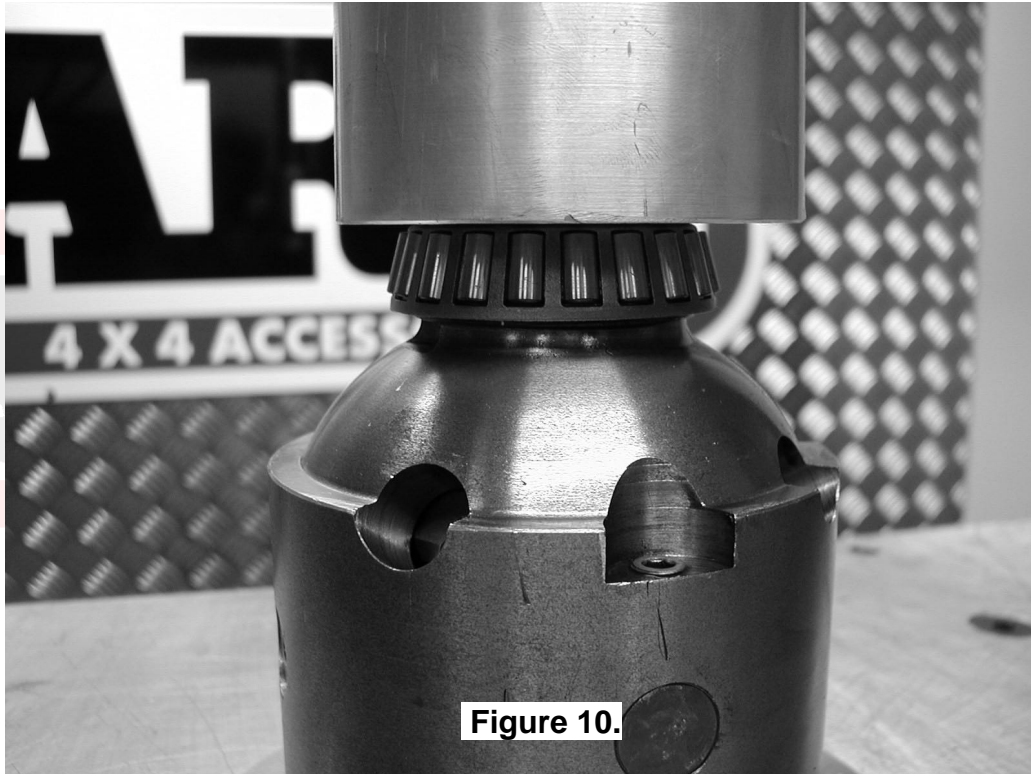

Figure 10.
- ☐ Using a bearing press or arbor press, press one of the bearing cones (supplied with the *Air Locker* kit) onto one bearing journal of the *Air Locker* (refer to Figure 10.) until the bearing seats firmly against the bearing journal shoulder.